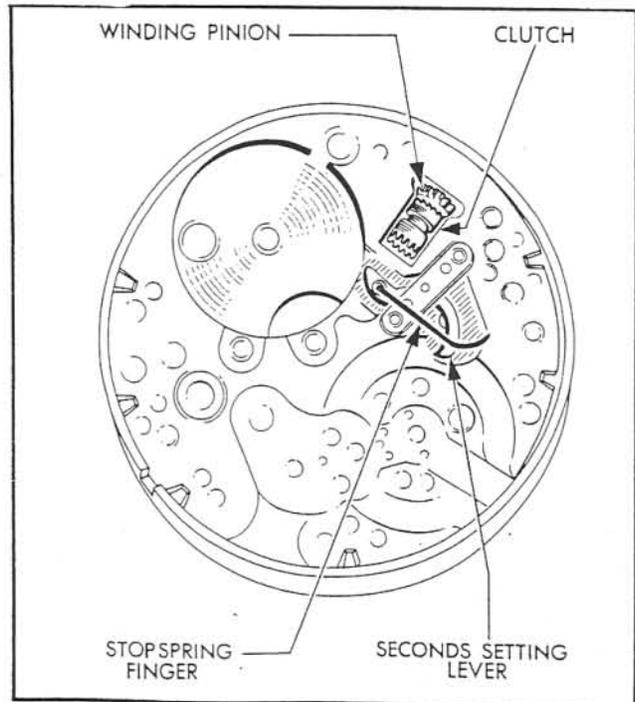

Figure 21—Removing Seconds Setting Mechanism
(10) WINDING PINION AND CLUTCH. (See figure 21).—Remove the winding pinion and the clutch from their recess in the pillar plate. At this point remove the setting lever (blue) screw previously loosened.
(11) DIAL TRAIN.—Now turn the movement over with the dial side up. Remove the slipper-shaped setting cap spring by removing two screws. Remove the minute wheel, intermediate setting wheel, and the setting wheel in that order. Then remove the clutch lever, clutch lever spring and setting lever.
(12) PILLAR PLATE.—To complete the disassembly of the pillar plate, unscrew the two balance lower endstone cap screws and remove the cap. Next remove the escapement lower endstone cap screws and cap. This completes the disassembly of the watch. While the banking pins normally should not be disturbed, if their removal is necessary because of breakage, they can be unscrewed at this time. The screws can be readily recognized since each is cross slotted.